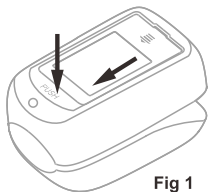

Fig 1
1. Release the lip of the battery compartment on the rear side of the device, in the direction of the arrow. Remove the battery-compartment cover. (Fig.1).